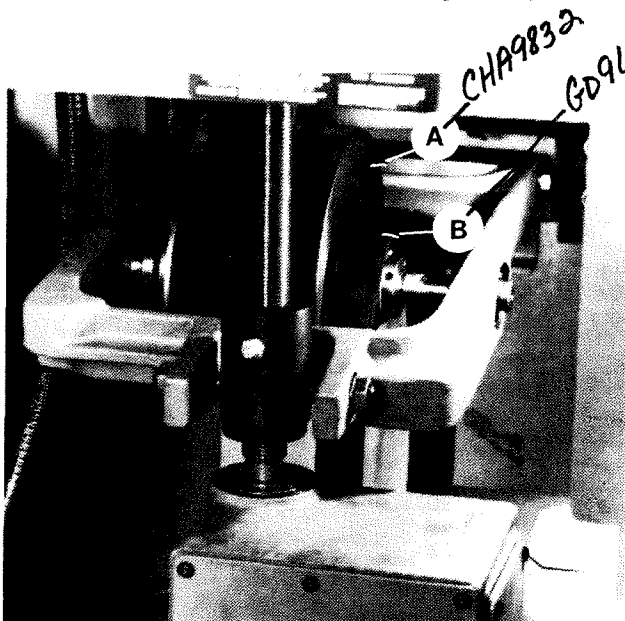

Figure 3.7 - Motor Belt on Pulley Hub
11. Roll motor belt "B", Figure 3.7, to the right off the pulley and let it rest on the pulley hub, as shown.